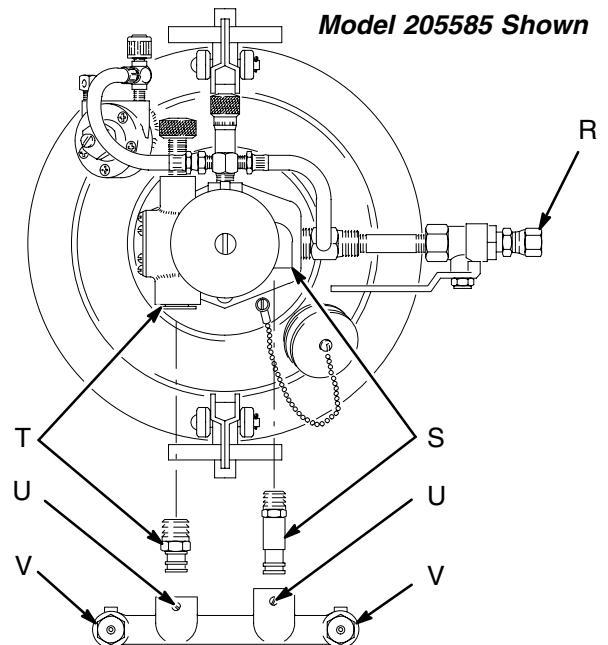

Fig. 4
2. Install the manifold studs in the fluid outlet (S) and return (T) ports of the pump. Tighten the manifold setscrews (U) to secure. See Fig. 4.